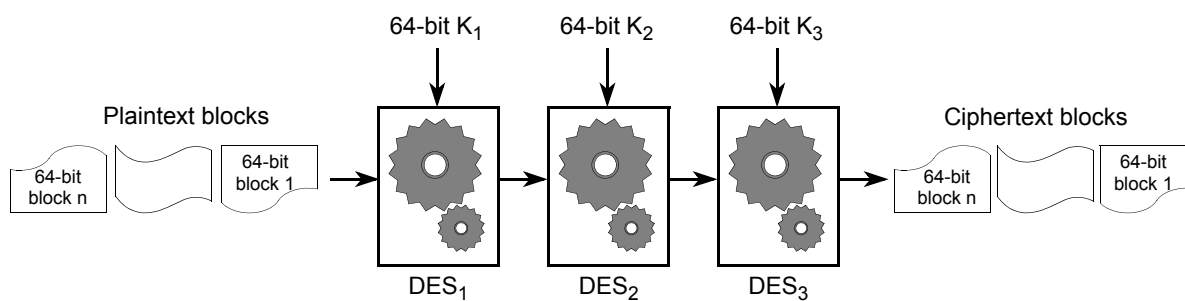

**Figure 28-2. Triple-DES Encryption Process (ECB Mode)**
In addition, the SKHA module can compute 3DES, which is an extension to the DES algorithm whereby every 64-bit input block is processed three times. The SKHA supports two key ( $K1=K3$ ) or three key 3DES. A diagram of 3DES is shown in Figure 28-2.